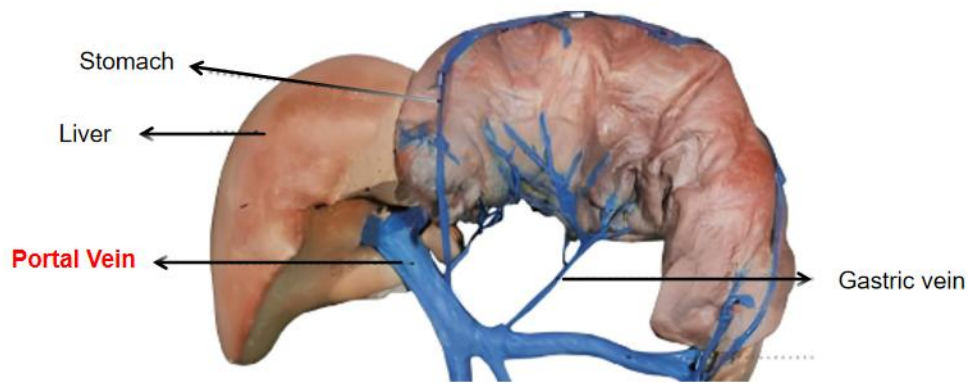
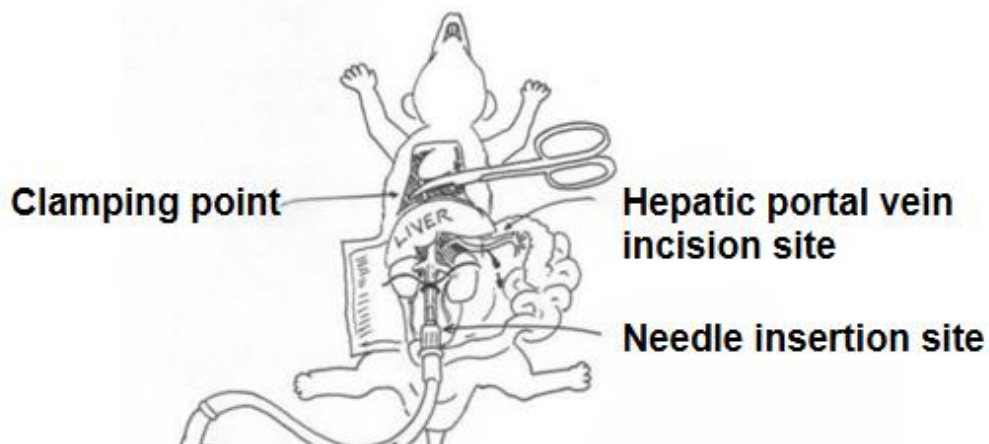

Figure 2. Schematic diagram of hepatic portal vein anatomy
Figure 3. Overview diagram of perfusion process
- b. Turn on the peristaltic pump and slowly infuse the Pre-perfusion Solution For Mouse Hepatic Parenchymal Cells until the liver becomes fully distended. At this time, use Ophthalmic Scissors 2 to cut open the hepatic portal vein for drainage (marked in Figure 2), maintaining a perfusion rate at 5 mL/min until all blood in the liver are completely drained and the liver tissue turns waxy yellow, the perfusion volume is about 20 mL (the perfusion process is shown in Figure 3).
- f. Gently push the syringe to allow the Pre-perfusion Solution into the mouse liver tissue. Use a timer to start the timing, control the infusion rate, and maintain the flow rate at around 5 mL/min. When the liver is full, use Ophthalmic Scissors 2 to cut open the hepatic portal vein for drainage (marked in Figure 2). Keep perfusion until the blood in the liver are completely drained and the liver tissue turns waxy yellow, the whole perfusion time is about 4-5 minutes (the perfusion process is shown in Figure 3).